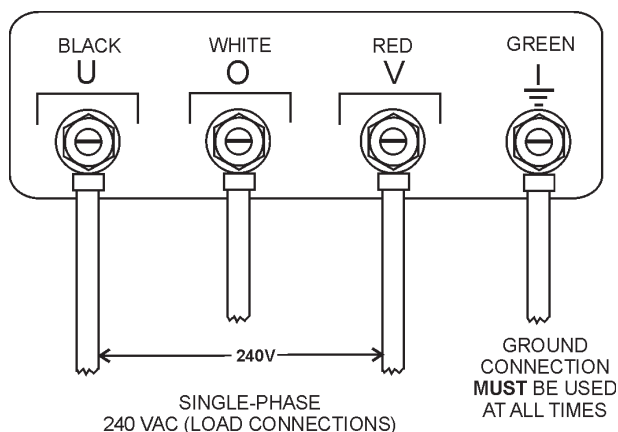

Figure 17. Output Terminal Lugs 240 Single Phase Connections
1. Connect the load wires to the **Output Terminal Lugs** as shown in (Figure 17)